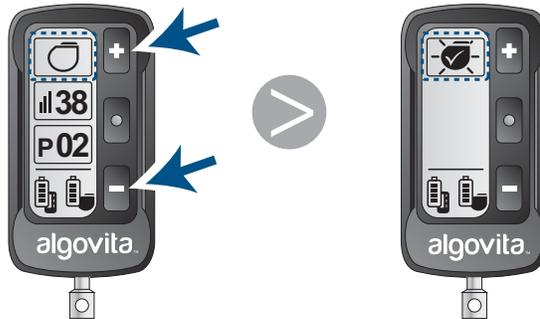

Figure 38. Changing Stimulation On or Stimulation Off icon
2. While the icon is blinking, press  or  to select  or  (Figure 38). The icon keeps blinking.